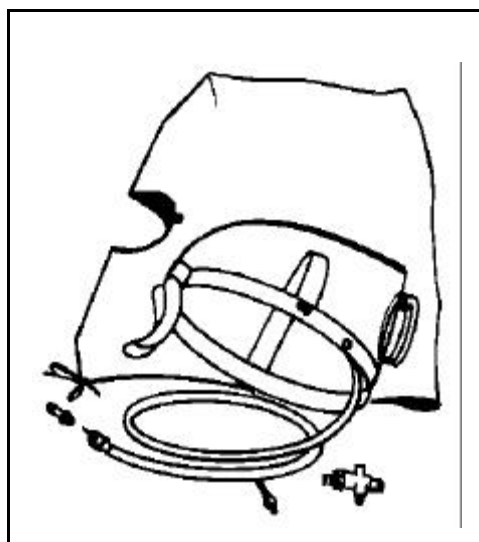

Figure 13-32. Hood Respirator
- The hood respirator (Figure 13-32, page 13-41) consists of a flameproof hood, a headgear of fiber with a metal eyepiece, and an air hose. The neck cloth at the bottom of the hood ties snugly around your neck to prevent entrance of fouled air. The opening in front of the hood is the only outlet for the constant flow of air entering from a hose attached to the back of the hood. Foul air cannot enter because pressure inside is slightly greater than pressure outside. The generous opening permits maximum range of vision.